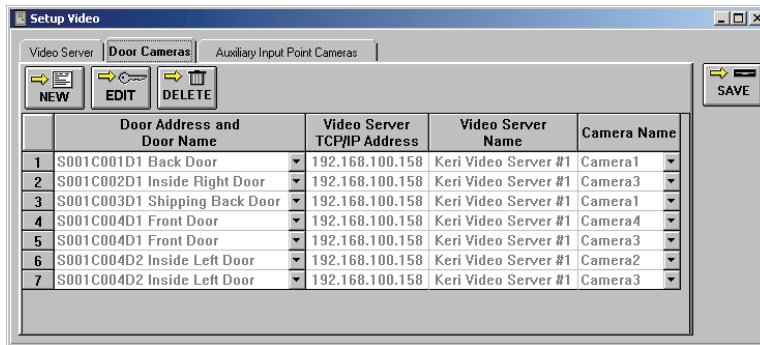

Figure 15-10: Door Cameras Tab with Doors and Cameras Assigned
- The finished window may appear similar to Figure 15-10.